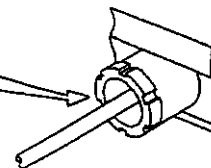

FIG. 4.2 ASSEMBLING PROCEDURE FOR CABLE
- 2) The cable ground is removed, and the ground and the gasket are inserted in the cable with the connector . (Refer to FIG 4.2)